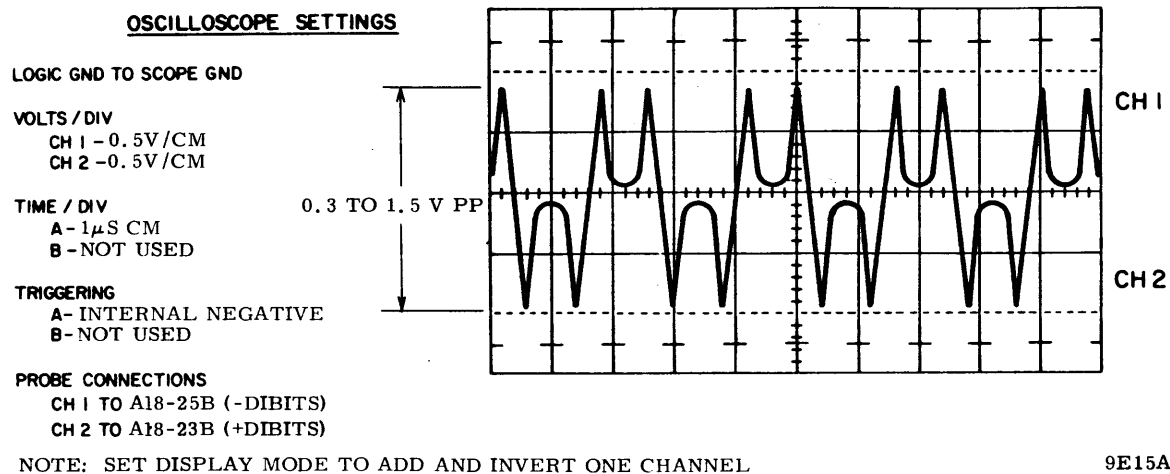

Figure 5-8. Track Servo Amplitude Waveform
2. Connect and set up oscilloscope as indicated on figure 5-8.
4. Command direct seek to cylinder 822 (410) and observe peak to peak amplitude of waveform.